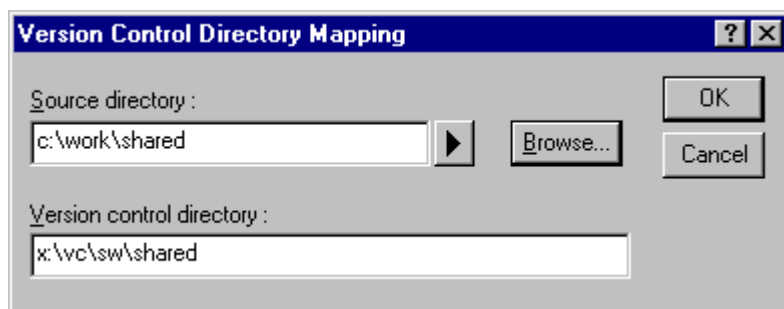

Figure 8.8: Version Control Directory Mapping Dialog
2. Click the “Add...” button that is next to the “Version control directory mappings” list. The dialog shown in * MERGEFORMAT figure 8.8 will be displayed.
2. Select the mapping to be modified from the “Version control directory mappings” list and then click the “Modify...” button. The dialog shown in * MERGEFORMAT figure 8.8 will be displayed.